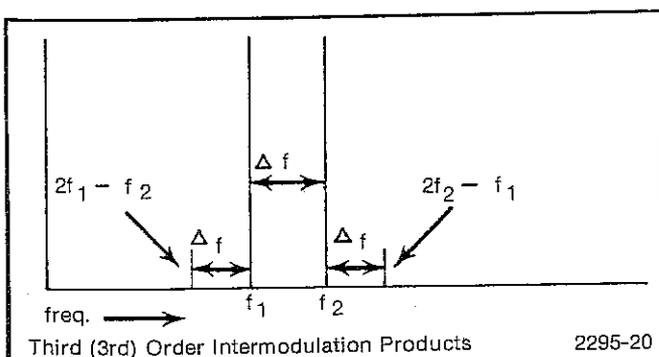

Fig. 4-12. Intermodulation Products (Distortion).
e. Check that the third order intermodulation product (about three divisions from center screen) are at least 7.0 divisions (-70 dB) below the full-screen signals (see Fig. 4-12).